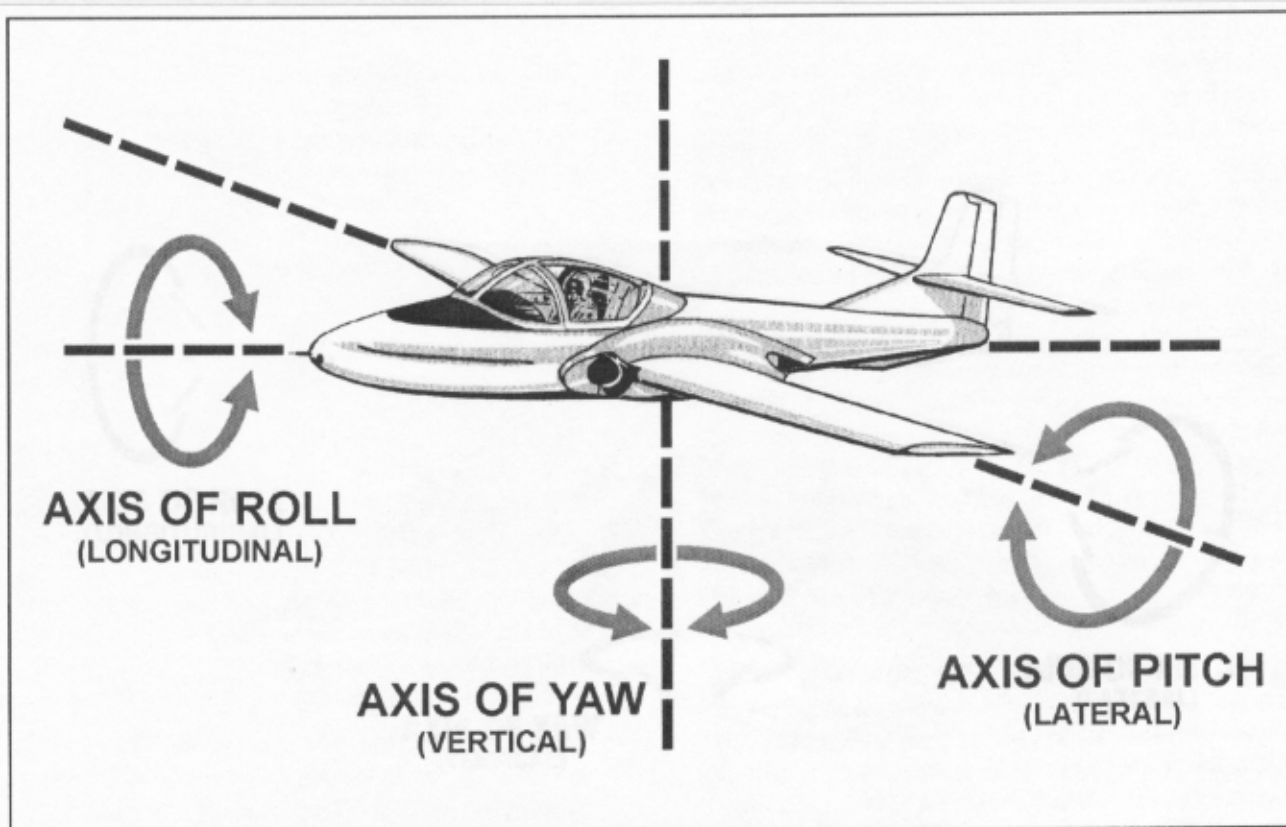

Figure 2.1. Axes of the Aircraft.
2.1. Effects of the Controls. Each flight control has its effect on the attitude of the aircraft and controls the movement about one of its three axes (figure 2.1). You should learn these effects in order to control the aircraft and obtain the desired responses. Your instructor will demonstrate the use and effects of the controls, first in straight-and-level flight at cruising airspeed and then in other flight attitudes. The same predictable responses to control movements will result regardless of the attitude of the aircraft. Think of yourself as the pivot point about which all changes of attitude occur.